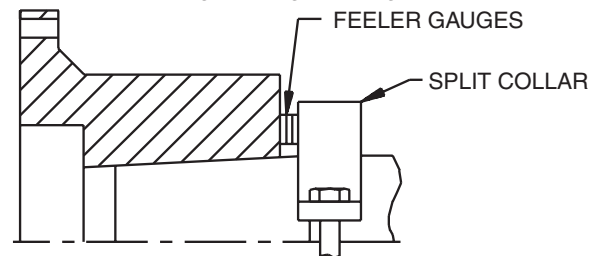
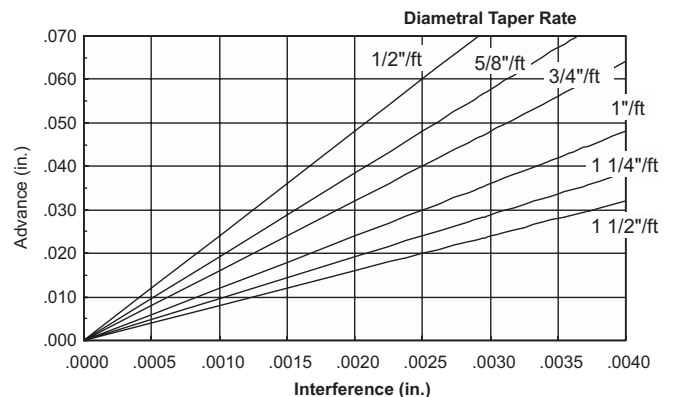

Figure 2. Using Split Collar to Set Advance
Figure 3. Hub Advance vs. Interference Chart
- 2.5 Tapered Bores Only: A recommended method to measure the hub advance is to install a split collar on the shaft, away from the hub by the amount of the specified advance. Use feeler gauges for accurate spacing. See Figure 2. The amount of hub advance is dependent upon the desired interference and taper angle as specified by the machine manufacturer or as given on the coupling drawing. See Figure 3.